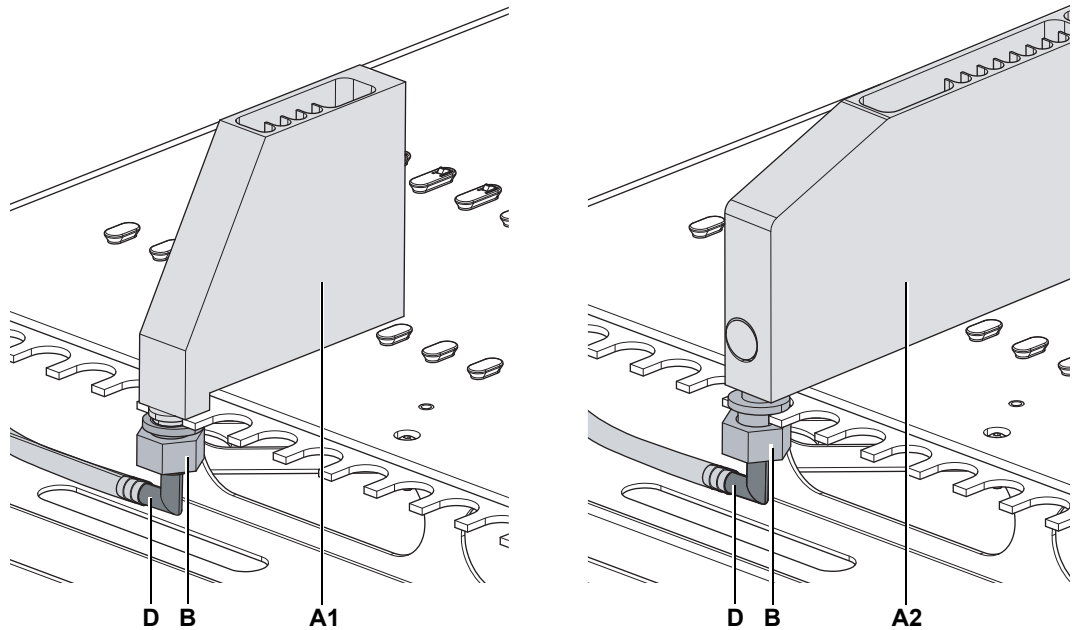

Fig. 7-12 Wash station types
- 2 Loosen the nut (B) Fig. 7-12, 7-23.
- 3 Pull the waste tubing connector (D) out of the wash station Fig. 7-12, 7-23.
- 4 Remove the wash station (A1) respectively (A2) from the worktable Fig. 7-12, 7-23.
- 8 Tighten the nut (B) Fig. 7-12, 7-23.
- 9 Close front access panel (P) Fig. 7-12, 7-23.